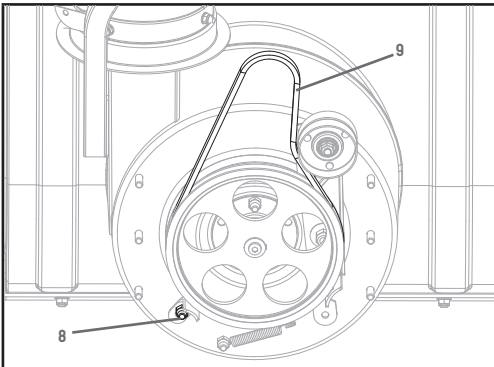

Figure 24
7. Unscrew the bolt on the belt support seat (8) (Fig. 24).
8. Slip the drive belt off the pulley (9). Remove and replace the belt in reverse order ensuring that the new belt is below the spring loaded idler pulley as shown in figure 24.